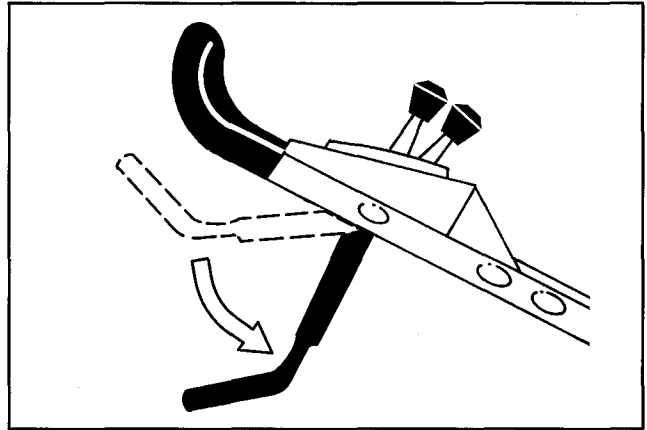

Figure 11
7. Push control bar down to lowest position (Fig. 11).